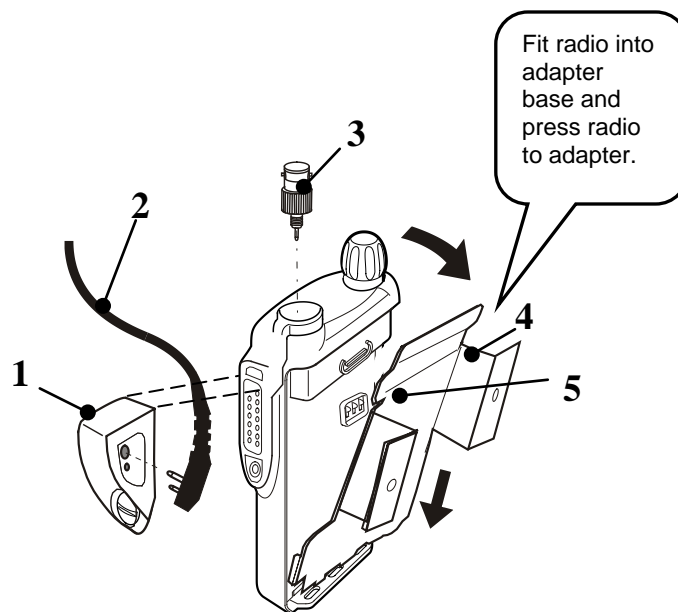

Figure 21-41 GP/HT/PRO Radio Installation
2. Connect the audio accessory adapter (HLN9716) (Item 1) to the radio. See Figure 21-41.